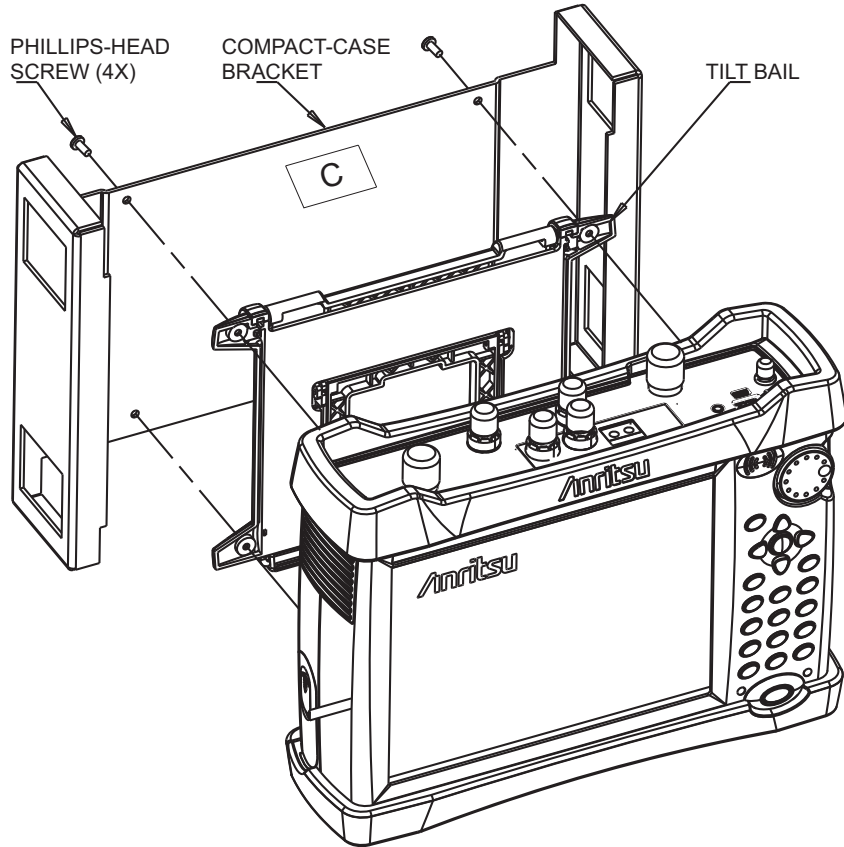
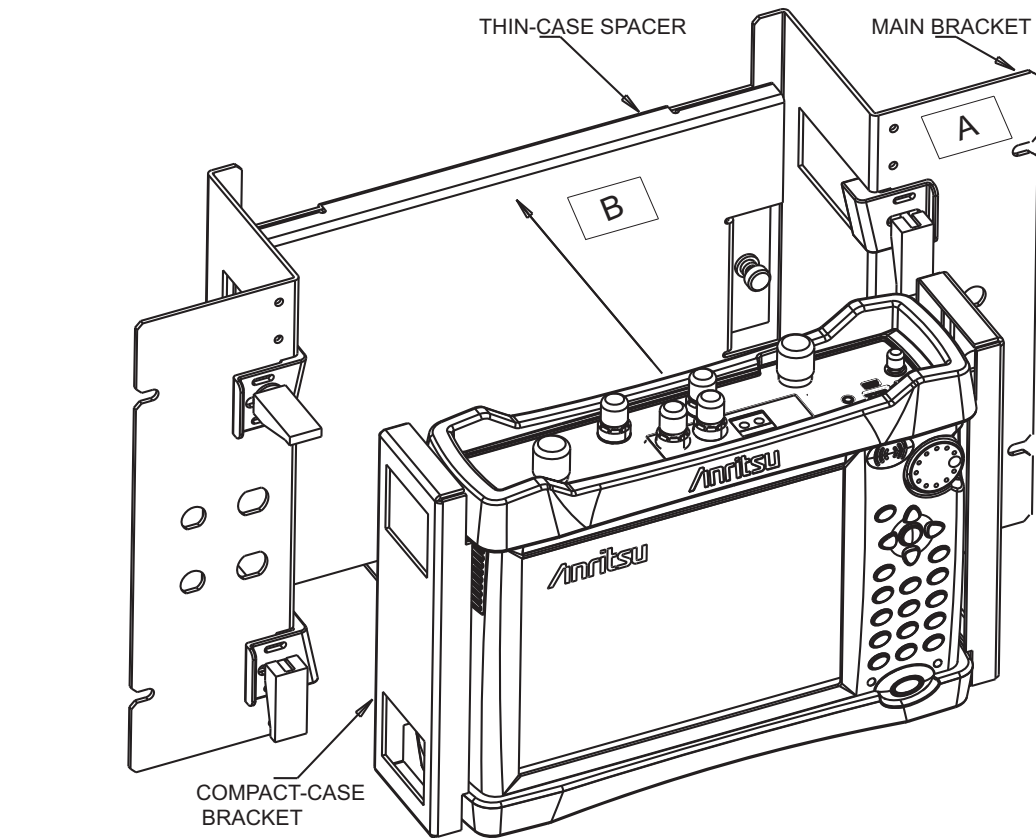

Figure 1-6. Compact-Case Rack Mount — Preparing the Instrument
Figure 1-7. Compact-Case Rack Mount — Mounting the Instrument
2. Save Compact-Case Bracket (C) (refer to Figure 1-6 on page 1-8) for future use.
2. Save Compact-Case Bracket (C) (refer to Figure 1-6) for future use.
3. Ensure that Thin-Case Spacer (B) is resting on ledge of Main Bracket (A). If you are adding the Thin-Case Spacer (B) to the Main Bracket (A), then note that the “B” label that is applied at the factory is at the top of the Thin-Case Spacer (B).
3. Secure your instrument to the Compact-Case Bracket (C) with the 4 screws that were removed from the tilt bail in Step 1. Refer to Figure 1-6 on page 1-8. Note that the upper two holes are spaced wider apart than the bottom two holes due to the tilt bail mounting configuration. The “C” label that is applied at the factory is at the top of the Compact-Case Bracket (C).
4. Ensure that Thin-Case Spacer (B) is resting on the ledge of Main Bracket (A). Note that the ledge is centered at the bottom of the Main Bracket.
5. Ensure the tightness of the thumb screws that hold the Thin-Case Spacer (B) to the Main Bracket (A). Refer to Figure 1-7 on page 1-9. If you are adding the Thin-Case Spacer (B) to the Main Bracket (A), then note that the “B” label that is applied at the factory is at the top of the Thin-Case Spacer (B). Refer to Step 3 on page 1-5.
8. Mount additional connectors (if needed) in the holes provided in Main Bracket (A).